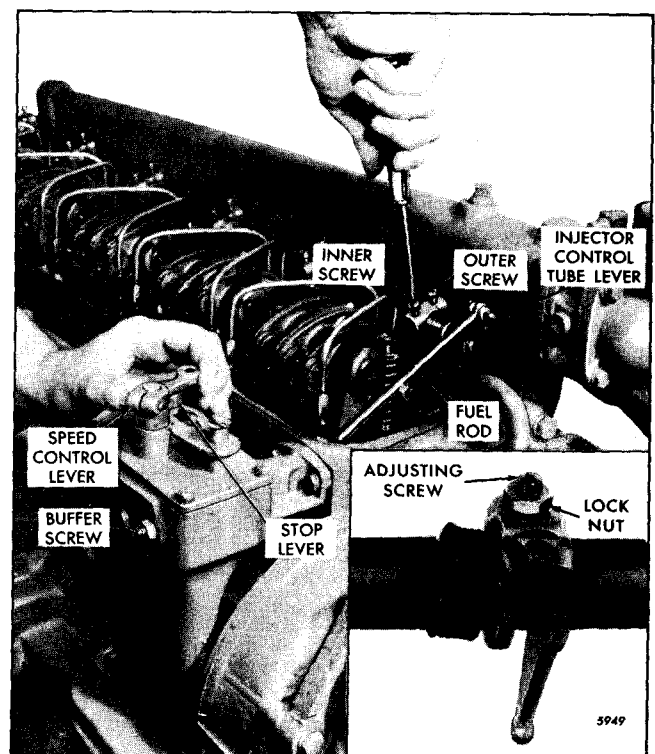

Fig. 3 - Positioning No. 1 Injector Rack Control Lever
5. Remove the fuel rod from the differential lever and the injector control tube lever (Fig. 3).
Adjust the No. 1 injector rack control lever first to establish a guide for adjusting the remaining injector rack control levers (Fig. 3).
5. Move the speed control lever to the maximum speed position and hold it in that position with light finger pressure (Fig. 3). Tighten the adjusting screw of the No. 1 injector rack control lever until the injector rack clevis is observed to roll up or an increase in effort to turn the screwdriver is noted. Tighten the screw approximately 1/8 of a turn more and lock securely with the adjusting screw locknut. This will place the No. 1 injector rack in the full-fuel position.